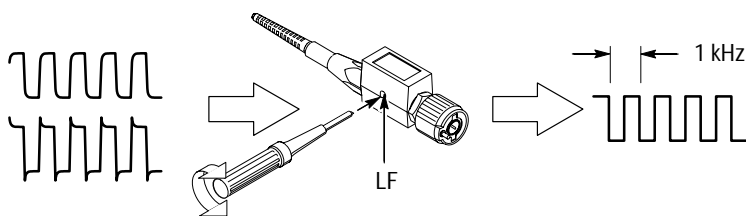

Figure 2: P6561A Low-Frequency Adjustment
5. Using the adjustment tool, adjust **LF** in the probe until you see a flat-top square wave on the display. See figure 2.